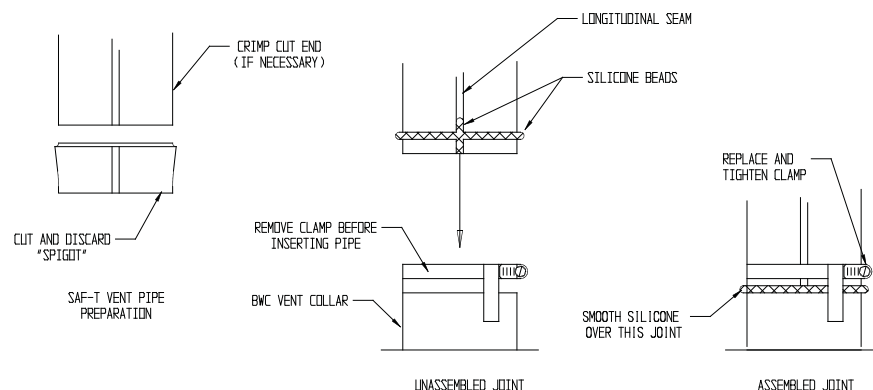

FIGURE 6.9: SAF-T VENT EZSEAL CONNECTION TO VENT COLLAR
- b) Connection to Boiler – Start assembly of the vent system at the boiler. Remove the hose clamp shipped on the BWC vent collar. Bend the three hose clamp tabs on this collar outward slightly. Cut the male “spigot” off of the first piece of pipe (Fig 6.9). If necessary, crimp the cut end of the pipe so that it can be inserted at least 1” into the collar. Clean the exterior of the male end of the first piece of pipe and the inside of the vent collar on the boiler with an alcohol pad. On the male end of the pipe, apply a ¼” wide bead of high temperature silicone approximately ½ inch from the male end of the pipe. Also apply a ¼” bead of silicone along the first 2 ½” of the longitudinal weld. Insert the male end of the pipe into the boiler vent collar until it bottoms out. Apply an additional bead of silicone over the outside of the joint and smooth out (Fig 6.9). Replace and tighten the clamp on the vent collar.